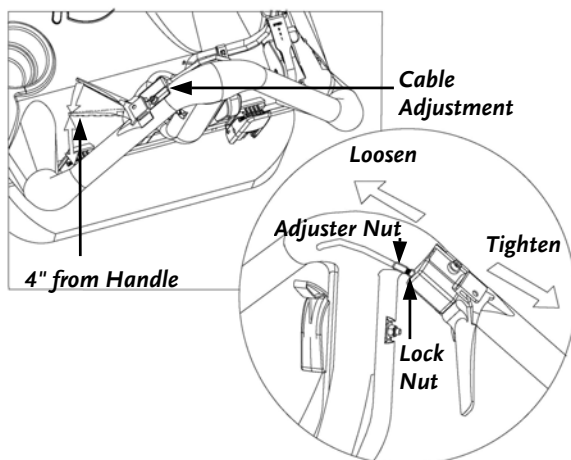

Figure 23a
2. Pull the machine backward and squeeze the Drive Clutch Lever until it stops freewheeling. At this point, the Drive Clutch Lever should be about 4" from the tip of the Lever to the Handlebar (**Figure 23a**).
4. Using two (2) 1/2" Wrenches, loosen the Lock Nut and then tighten or loosen the Cable Adjuster Nut in front of the Drive Clutch Lever (**Figure 23a**) until you obtain the 4" distance as noted in step 2.
5. Holding the Adjuster Nut in place with one Wrench, tighten the Cable Lock Nut firmly with the other (**Figure 23a**).